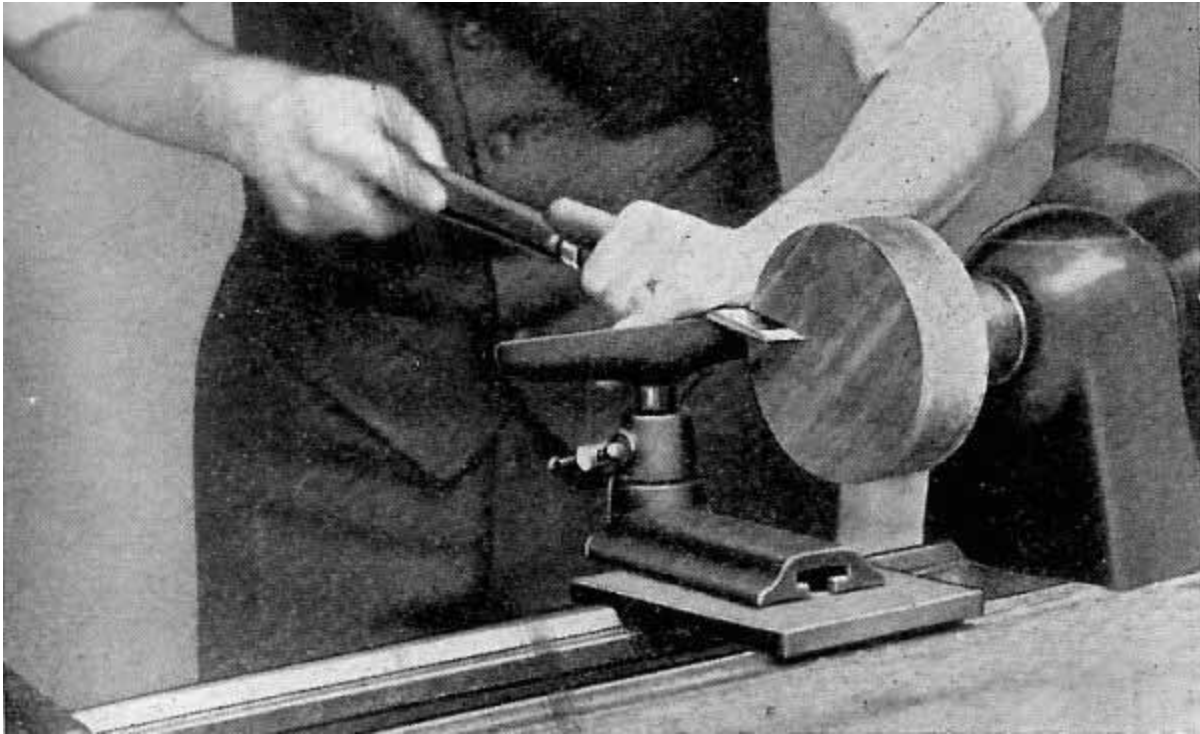

Fig. 16.
5. SMOOTHING THE FACE. (SMALL SKEW CHISEL.) FIG. 16. For all work up to 3" in diameter, the surface may be smoothed by using a small skew chisel in the same manner as in squaring the ends of Stock in cylinder work. (Step 6--Exercise A-I--1-a, Straight Cuts.)